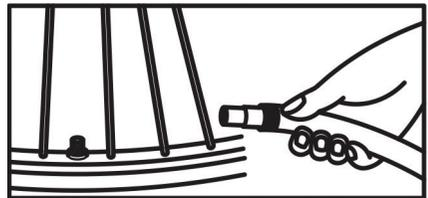

Figure 1
2. Open the thumb latch and place it securely onto the tire valve stem, and press the thumb latch to lock the air nozzle on the stem. See figure 1.